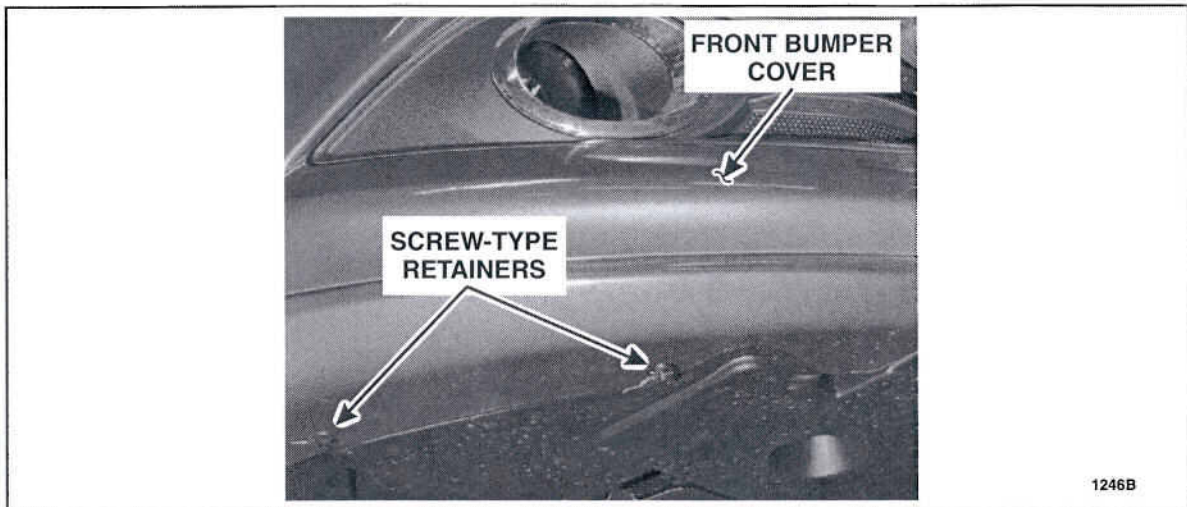

FIGURE 2
3. Remove the two lower front bumper cover screw-type retainers from the RH and LH side of the vehicle. See Figure 2.
8. Install the lower bumper cover screw-type retainers to the RH and LH side of the vehicle. See Figure 2.